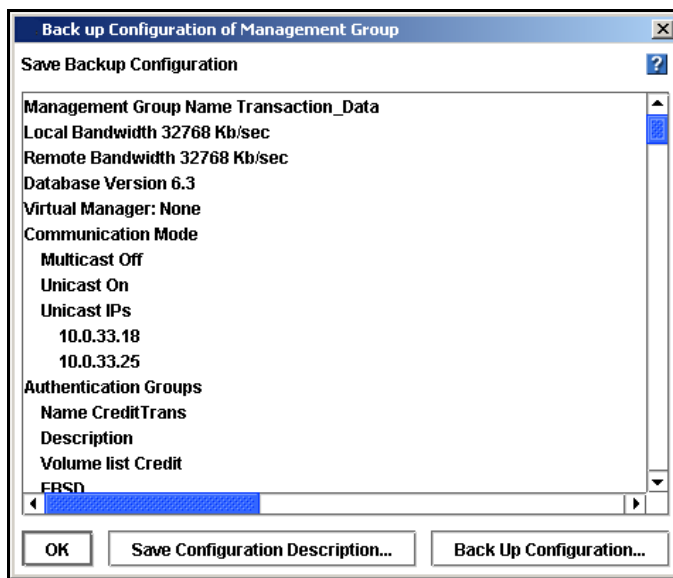

Figure 140. Backing up the Management Group Configuration
2. From the Tasks menu on the Details tab, select Back up Configuration of Management Group. The Back up Configuration of Management Group window opens, shown in Figure 140.